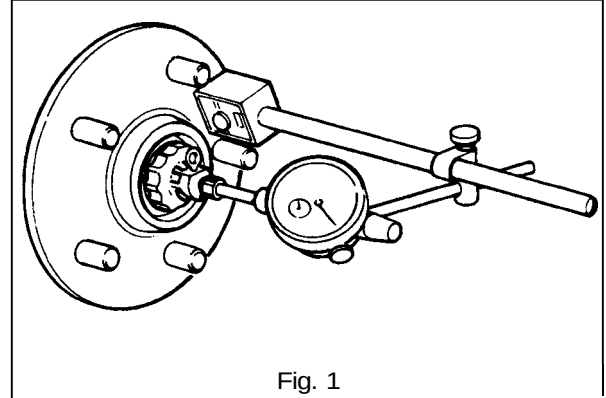

Fig. 1
- Slacken the track rod locknut but do not wind away from the ball joint (1 Fig. 1).
- Remove the track rod ball joint nut (and discard) (2 Fig. 1) at the steering arm (3 Fig. 1).
- **End float.** Set a Dial Test Indicator (DTI) as shown in Fig. 1 and adjust the hub nut to achieve the correct end float. As the adjustment is made, continually load the hub axially in both directions.